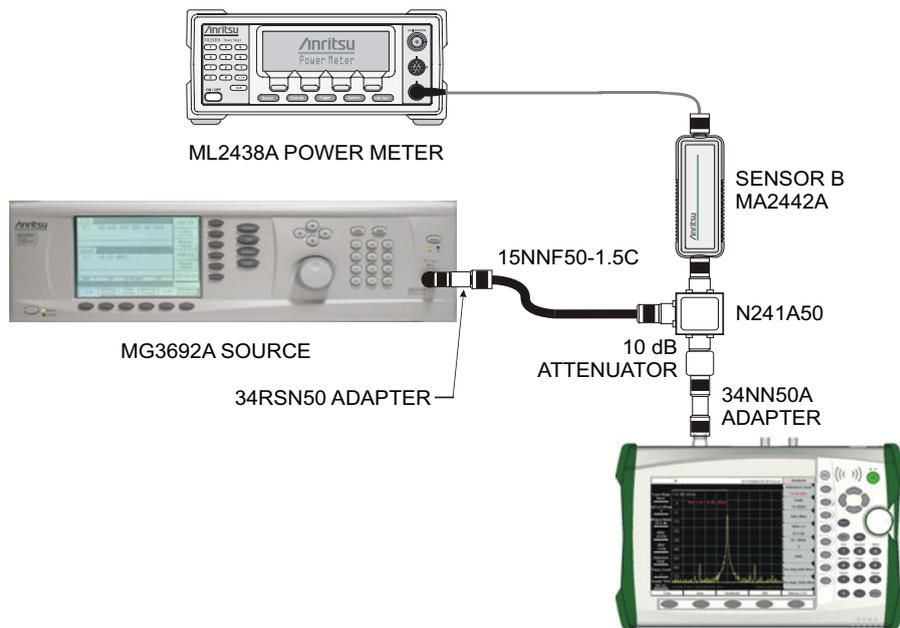

Figure 2-3. Test Setup for Amplitude Accuracy Across Frequency Verification
10. Remove Sensor A from the attenuator output, install the 34NN50A adapter to the end of the Attenuator, and connect the splitter/attenuator fixture to the MS203xA as shown in Figure 2-3. To maintain test setup integrity, do not disconnect Sensor B, the power splitter, or the fixed attenuator.
1. Connect the equipment as shown in Figure 2-3 on page 2-8.